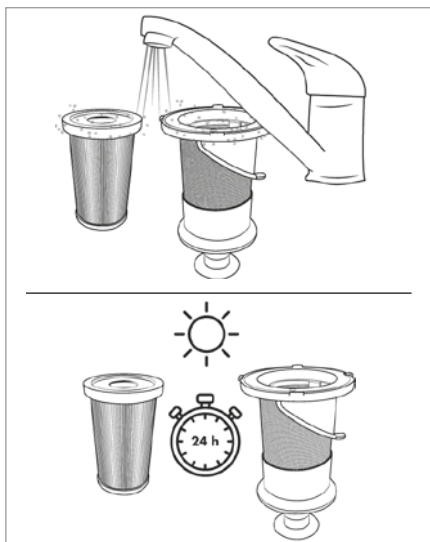

Fig. 22
- 5) Rinse the EPA filter ⑤ and the stainless steel filter ⑥ under cold or lukewarm water. Allow the EPA filter ⑤ and stainless steel filter ⑥ to air dry completely before putting them back into the dust container ⑦ (see Fig. 22).